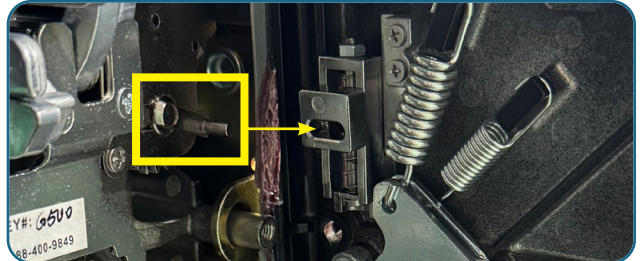

Fig. 5
B. The safety release slider is aligned with the safety release actuator arm on the exterior lock assembly. (**Fig. 5**)